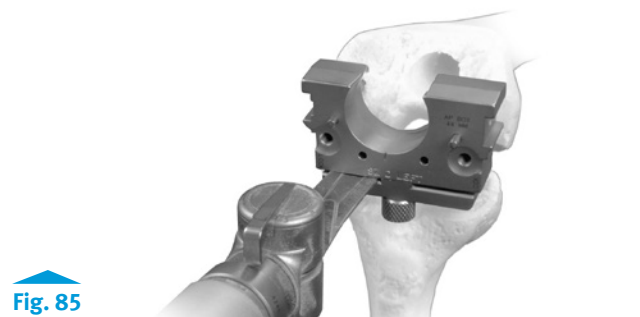

Fig. 85
- Attach the Posterior Saw Guide Attachment to the posterior surface of the Femoral Stem Base/Cutting Block, ensuring that it is flush with the distal surface of the block, and fully tighten the thumb screw (Fig. 85).